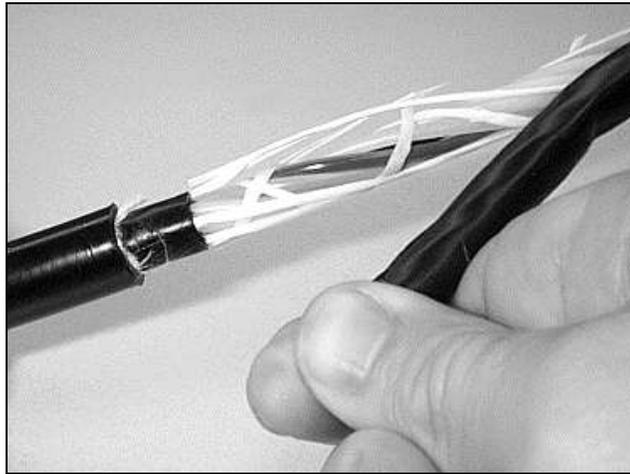

Figure 13 - Remove the inner sheath from the cable core.
4.17 Remove the inner sheath to expose the core of the cable (Figure 13).